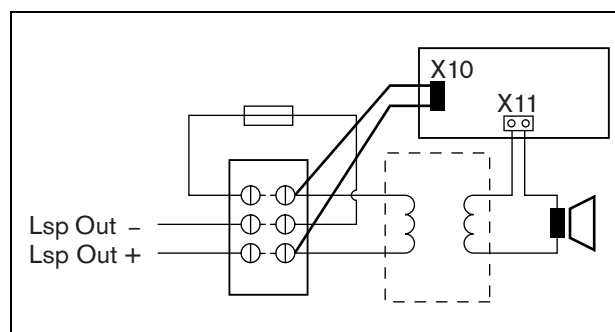

figure 13.6: Loudspeaker supervision connection
- 3 Connect the board to the loudspeaker with the flying leads and the faston connectors (see figure 13.6).